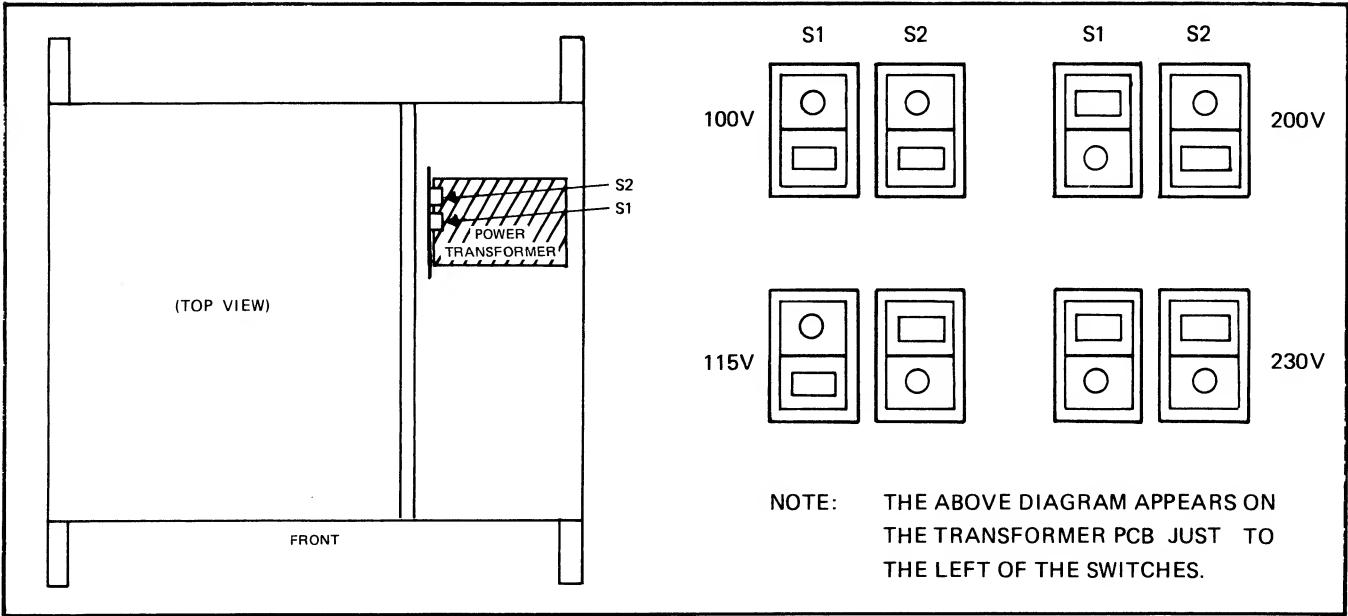

Figure 2-1. INPUT POWER SELECTION SWITCHES, LOCATION AND POSITIONS.
- c. Locate the input power selection switches shown in Figure 2-1.